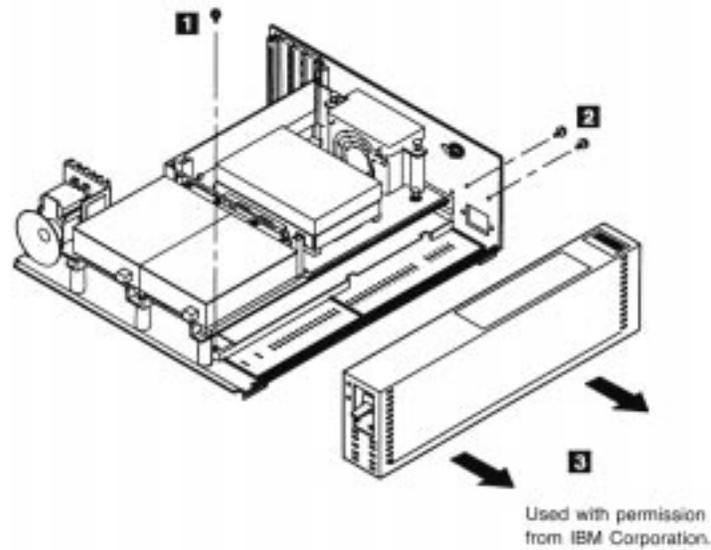

Fig. 3.33
3. Slide the power supply to the right, and remove from the system unit (see fig. 3.33).